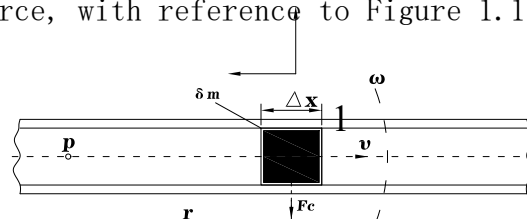

Figure 1.1
If a pipe is rotated around a point (P) while liquid is flowing through it (toward or away from the center of rotation), that fluid will generate an inertial force, with reference to Figure 1.1:
The force generated by tangential acceleration is Coriolis force, its value is equal to  $F_c = 2\omega v \delta_m$ . In figure 1.1 fluid  $\delta_m = \rho A \times \Delta X$ , So Coriolis force can be expressed as: